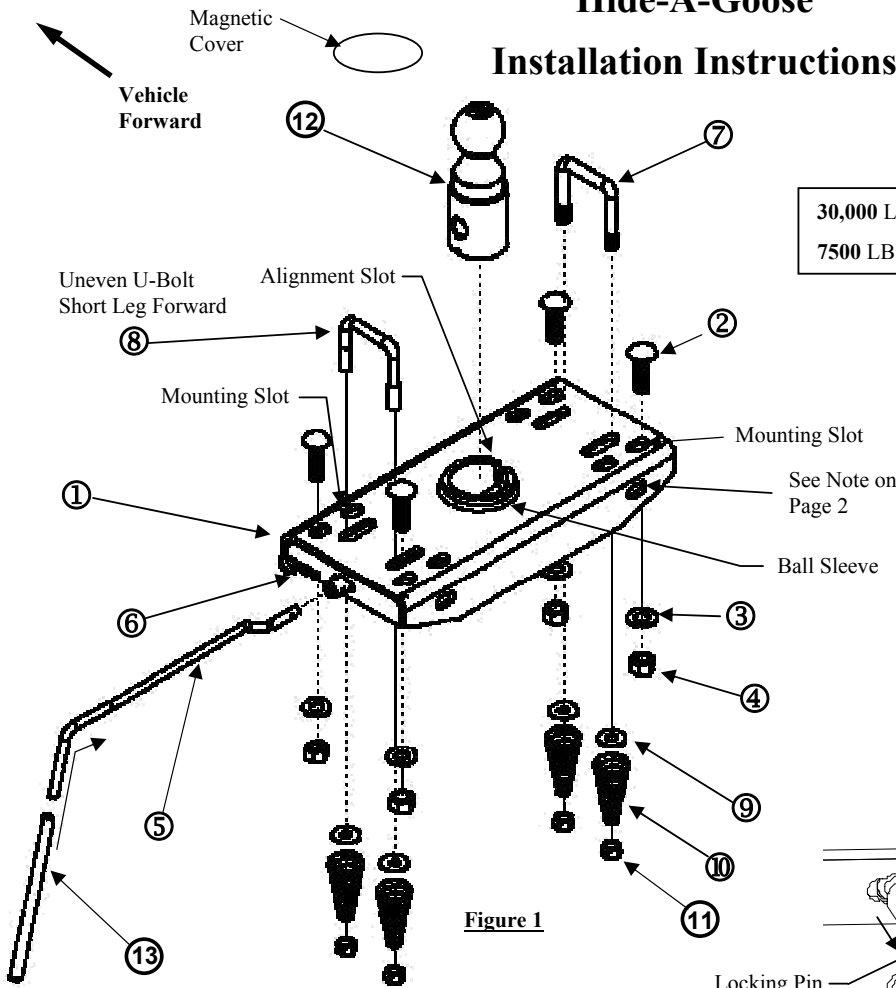

Figure 1
- From under the truck, install the 1/2" flat washers, U-Bolt springs, and 1/2" lock nuts (see figure 1 and 2). Tighten nuts so a minimum of 3 threads are showing passed the nuts.
- NOTE: If not installing head on Towing Products manufactured mounting kit, secure the hitch to your mounting system using the four holes in the front and back of the hitch and four 5/8" (grade 5) bolts (not provided). See figure 1. This is in addition to the four vertical bolts provided in the kit and will allow you to obtain the maximum head rating of 30,000 Lb GTW / 7500 TW Lb.**